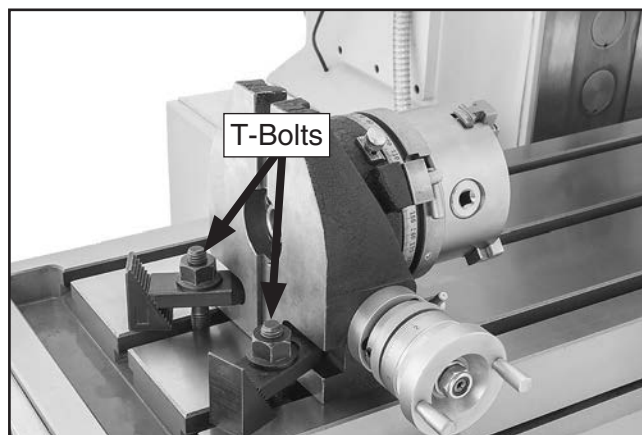

Figure 14. Example of rotary table mounted in vertical position using T-bolts, clamping plates, flat washers, and hex nuts.
3. Install rotary table in vertical position on (1) T-bolt (see **Figure 14**).
4. Install (1) clamping plate, (1) flat washer, and (1) hex nut on T-bolt (see **Figure 14**), then tighten securely. Holding table rigid will help with accuracy, efficiency, and general safety.